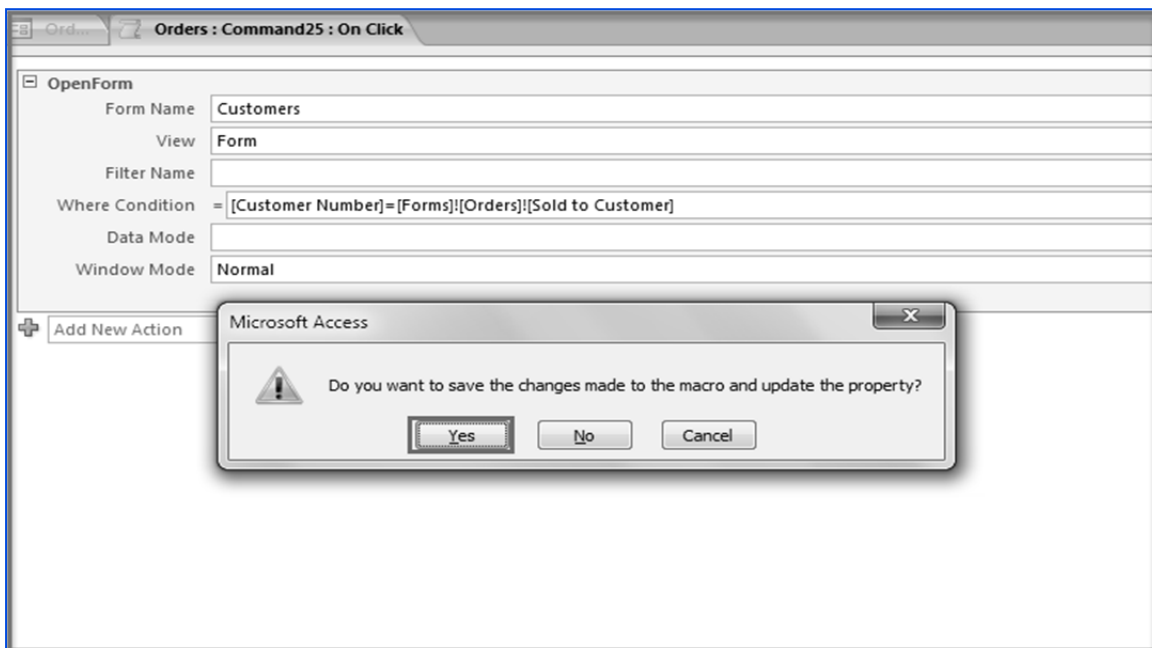

Fig. 4.2.25(B): Confirm to save the macro
8. A message box appears prompts to save the *macro* created, as shown in Fig. 4.2.25(B). Click *Yes* to save the *macro*.